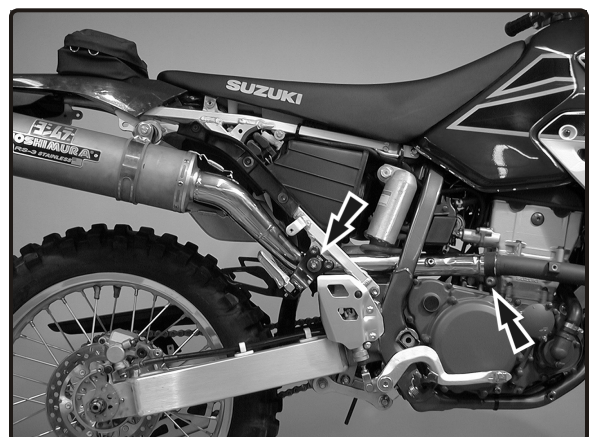

Fig. 3
- 4 Slide stock exhaust clamp over inlet of slip-on tail-pipe. (See Fig.3)
- 7 Bolt tail-pipe to chassis mount using supplied bolt. Do not tighten bolt at this point. (See Fig. 3)